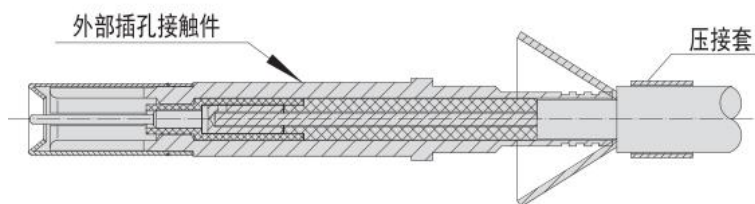

Figure 1.13
⑥ Assemble the outer contact parts on the central contact parts and under the cable shielding layer as Figure 1.13 until the central contact and insulator are completely tight.